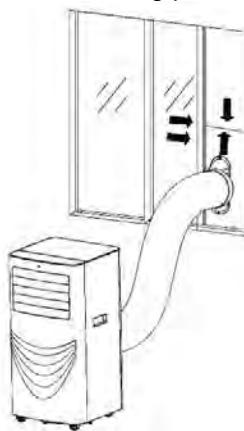
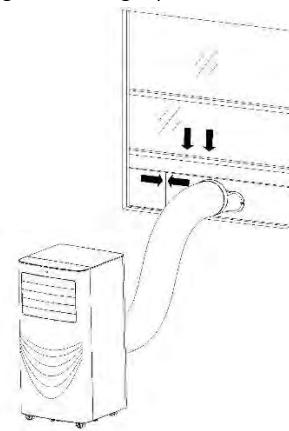

Fig.6
Fig.7
- 3) Elongate the exhaust pipe and snap the flat end of the exhaust pipe joints into the hole of the window sealing plate assembly (as shown in Fig.6 and Fig.7).